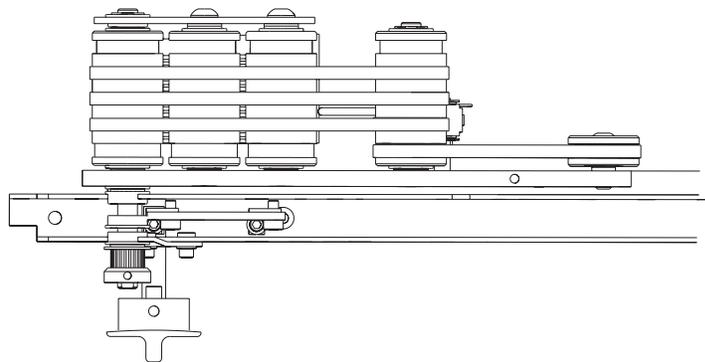

FIGURE 30: Feed Belt Assembly
- 5 On a weekly basis or if the dirt buildup on the pulleys appears excessive, clean the top side of the feed belts (see Figure 30). To do this: